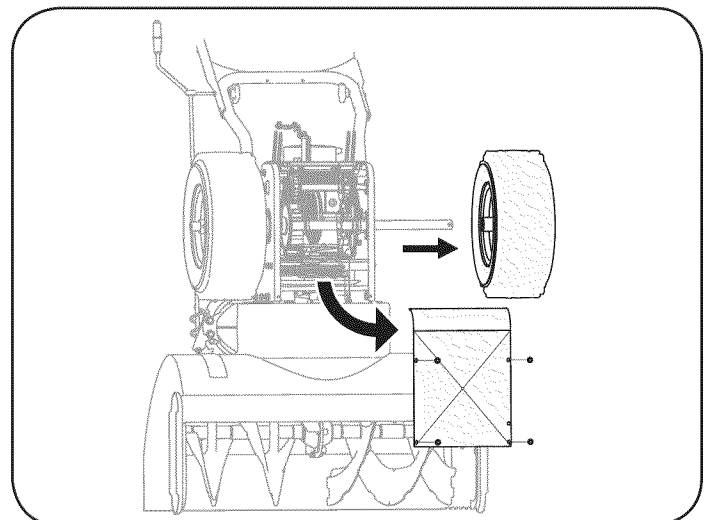

Figure 36
3. Remove screws from the frame cover underneath the snow thrower. See Figure 36. Remove the right wheel from the axle.